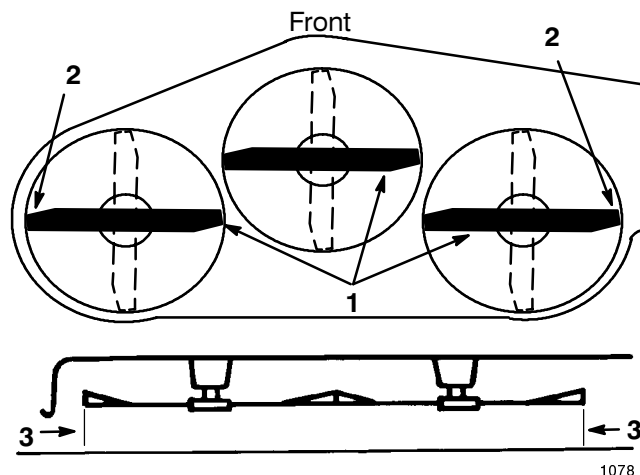

Figure 52
- Carefully rotate blade(s) side to side (Fig. 52). Measure between the outside cutting edges and the flat surface (Fig. 52). If both measurements are not within  $3/16''$  (4.762mm), an adjustment is required; refer to steps 5 and 6.